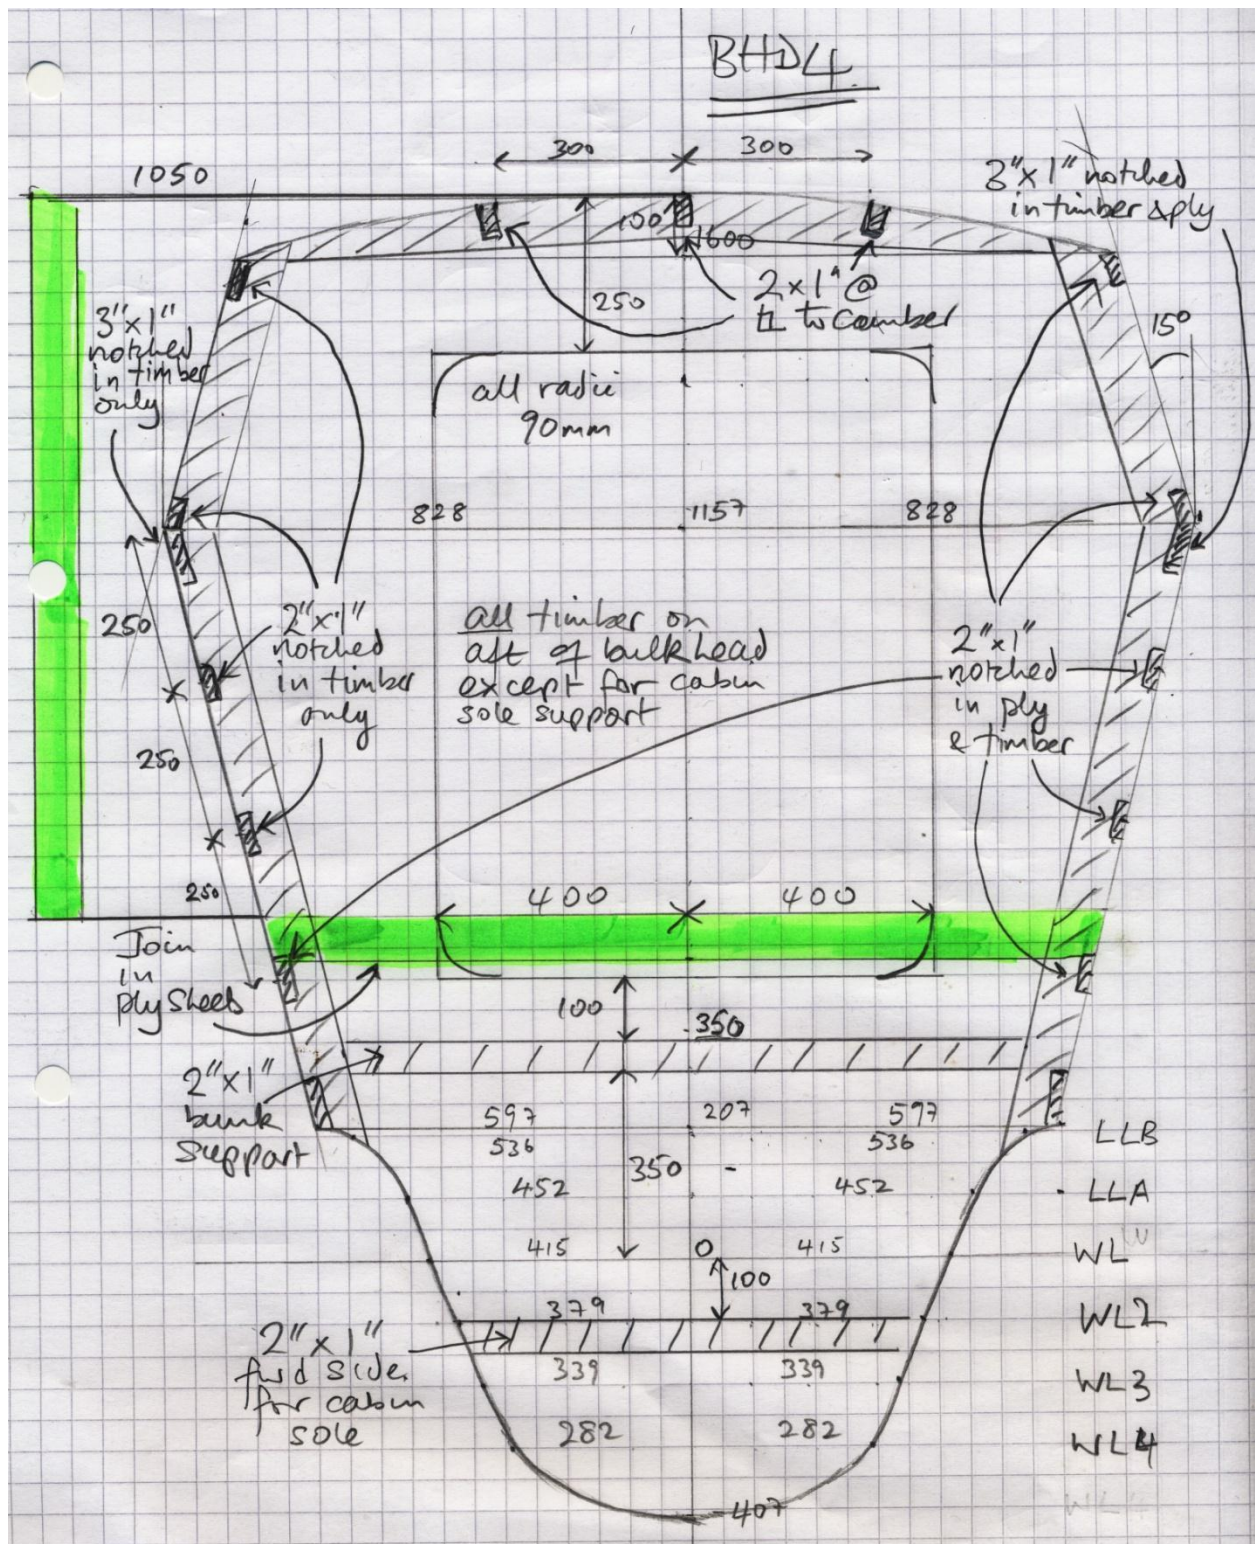

Figure 14: Bulkhead 4 Details
- Figure 14: Bulkhead 4 Details.